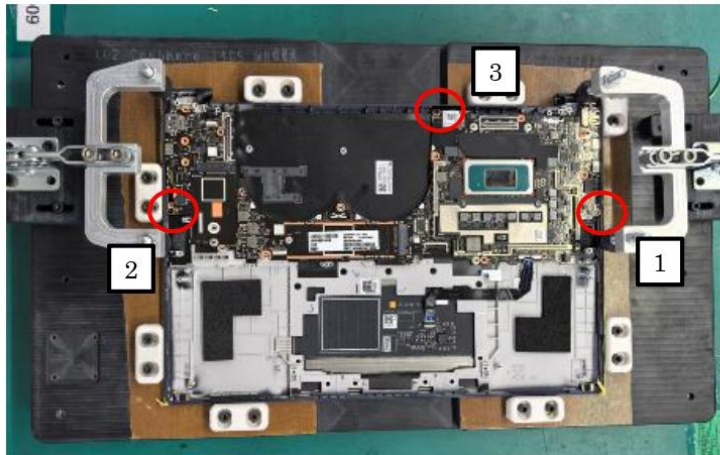

Figure 1
-  1. Removing screws M2*2.3 (6052B0855301)*3 fixed MB (Fig. 1)
1. Take out the M/B and put it on the foam jig, open the KB and BL FFC CNTR (Figure 1)